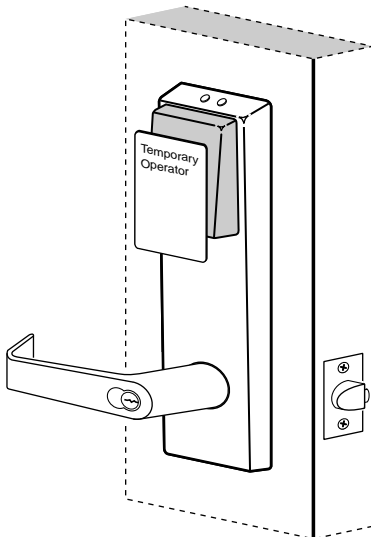

Figure 18c Using the temporary operator card with a proximity card reader
- 1 Hold the temporary operator card within an inch of the lock's card reader, as shown in Figure 18c.